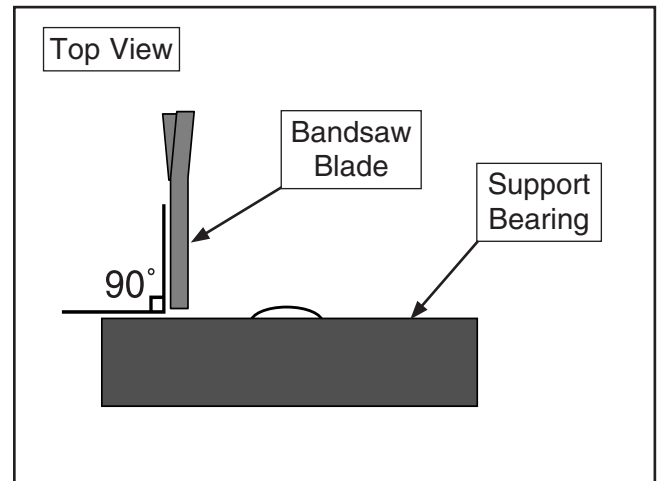

Figure 51. Blade should be perpendicular (90°) to the face of the support bearing.
4. Loosen the guide block assembly cap screw and rotate the blade guide assembly side-to-side, until the blade is perpendicular with the face of the support bearing, as illustrated in **Figure 51**.
4. Check to make sure the guide block assembly is perpendicular with the face of the support bearing as illustrated in **Figure 51**.